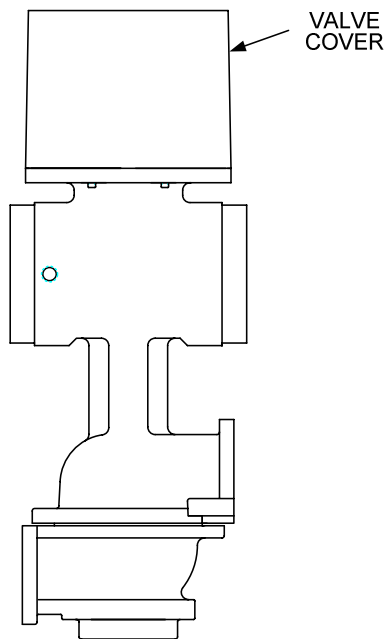

Figure 6.7
2. Remove the air/fuel valve cover by rotating the cover counterclockwise to unlock it and then pulling it towards you. See Fig. 6.7.
2. Remove the air/fuel valve cover (Fig. 6.7) by rotating the cover counterclockwise to unlock it then pulling it towards you.